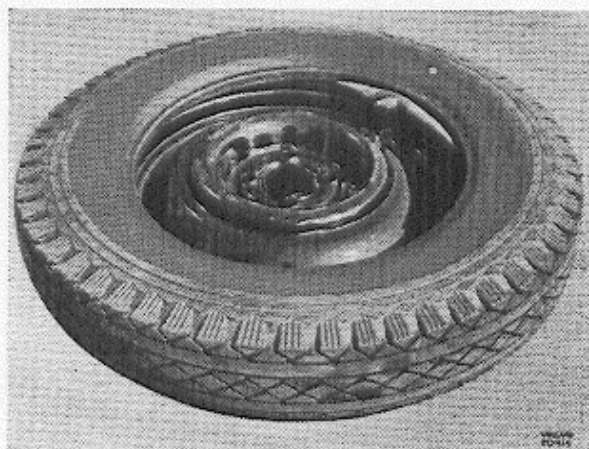

Fig. 19. Removing the valve.
4. Press in the valve and pull it out between the rim and the tyre (Fig. 19). Remove the inner tube and screw on the valve needle and cap.